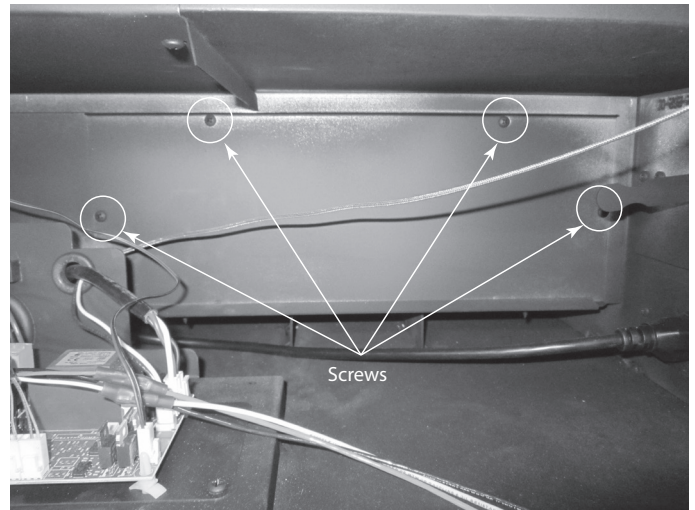

Figure 4.16 Remove Screws From Access Panel
- Remove the (4) screws from each fan access panel and pull them forward and out. See Figure 4.16.